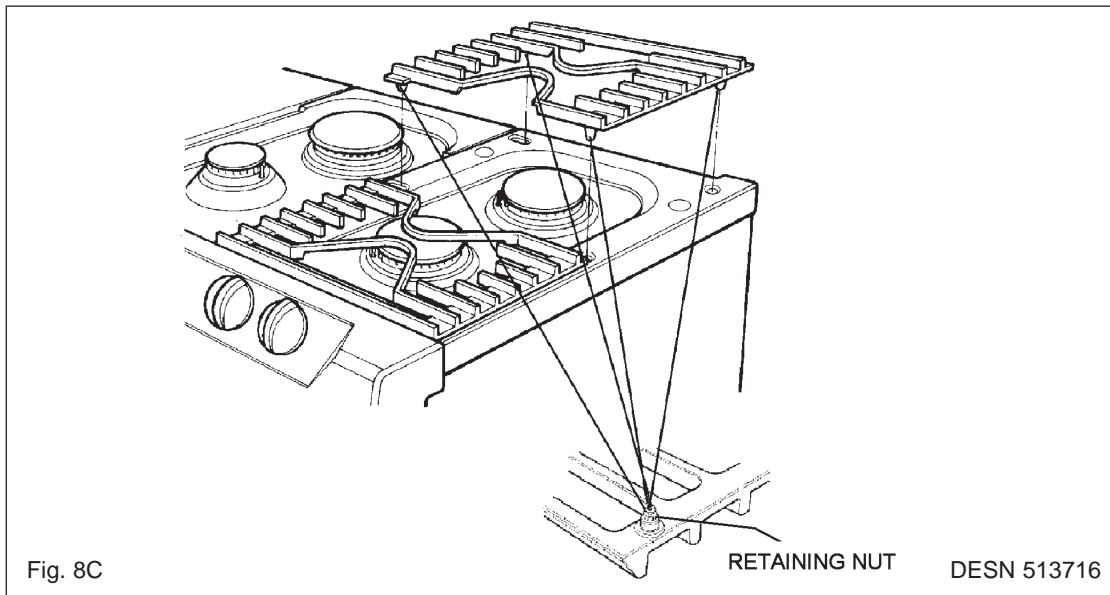

Fig. 8C
1. Loosen retaining nut using 8mm spanner. (See Fig. 8C).